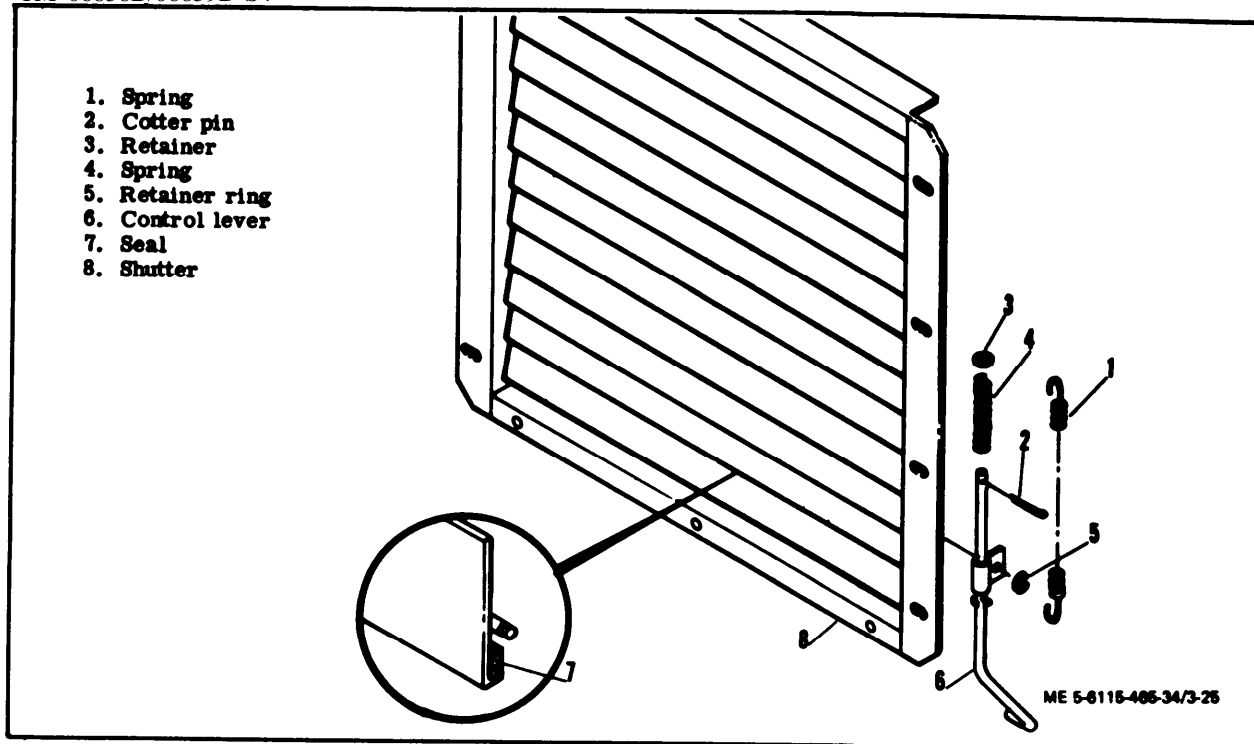

Figure 3-25. Shutter Assembly, Exploded View
(1) Remove spring (1, figure 3-25).
(2) Remove cotter pin (2) to remove retainer (3) and spring (4).
(3) Remove retainer (5) to remove control lever (6).
(4) Remove any damaged or deteriorated seals (7) from vanes of shutter (8).